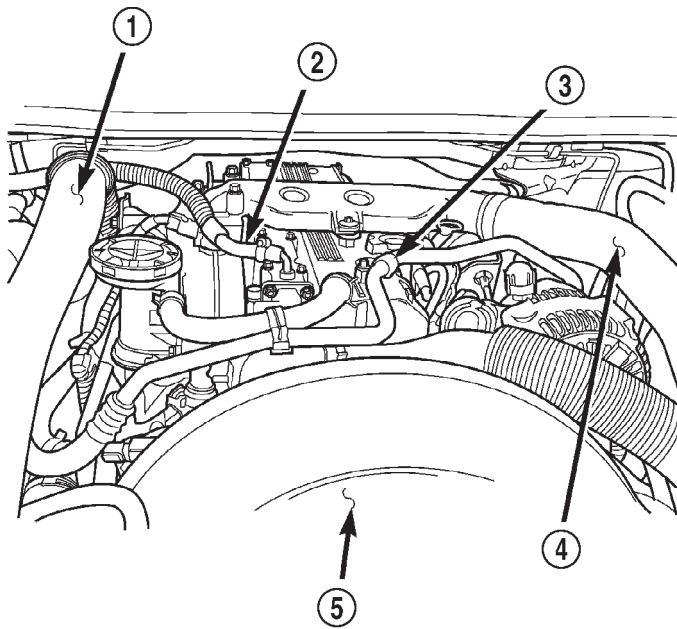

Fig. 8 Intercooler Hoses
(21) Remove the manual cooling fan and let set inside of the fan shroud.
(22) Remove the intercooler inlet and outlet hoses from the vehicle (Fig. 8).